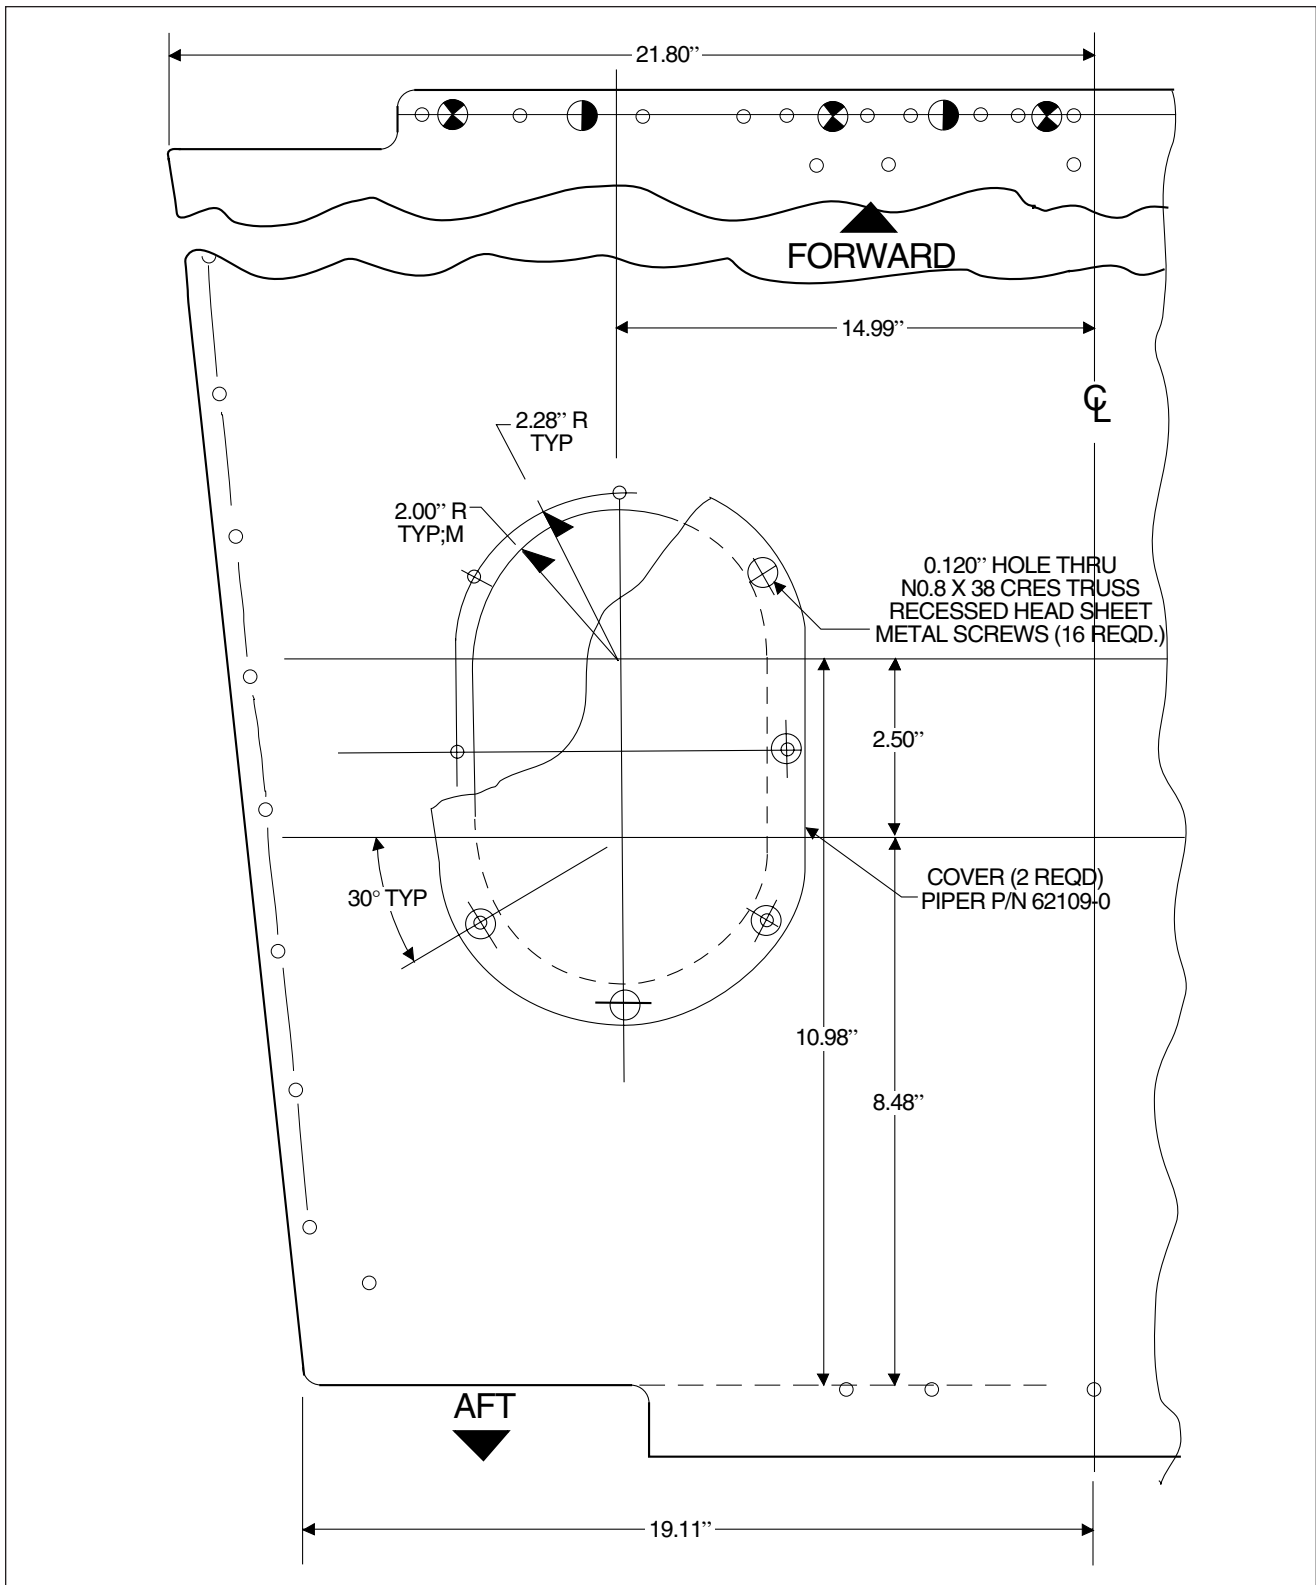

Figure 51-2. Baggage Compartment Inspection Holes Cutout Details
2. Baggage Compartment Inspection Holes Fabrication Procedure (Refer to Figure 51-2)
While Figure 51-2 shows the hole in the left side of the baggage compartment, a similar hole is also cut out in the right side baggage compartment floor. Installation will require two each inspection access covers, Piper P/N 62109-0.
- (1) Gain access to baggage compartment.
- (2) **Carefully** remove:
- (3) Determine and mark a reference center line running through baggage compartment. Refer to Figure 51-2 for measurements.
- (4) Measure two points 14.99 inches each side of the reference centerline. Joining these two points will form the centerlines of each inspection hole.
- (5) Measure two points on each side of each centerline of both holes at distances of 8.48 inches and 10.98 inches from the aft edge of the baggage compartment floor.
- (6) Connect the two 8.48" points and the two 10.98" points so that the resulting lines cross the centerline of each hole.
- (7) Using the intersection of the lines constructed in step (6) with each hole's centerline as the center, scribe an arc having a radius of 2.00"
- (8) Draw a line (four lines total) tangent to the each side of the arcs constructed on step (7).
- (9) There should now be two ovals, like the one in Figure 51-2, laid out on each side of the baggage compartment floor.